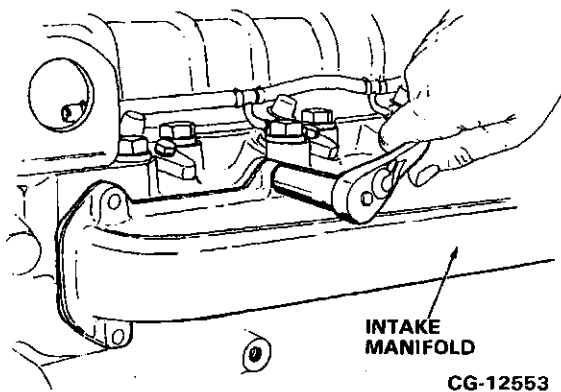

Figure 3.11. Intake Manifold Bolt Removal
3. Loosen and remove the remaining intake manifold bolts and studs. Refer to Figure 3.11.